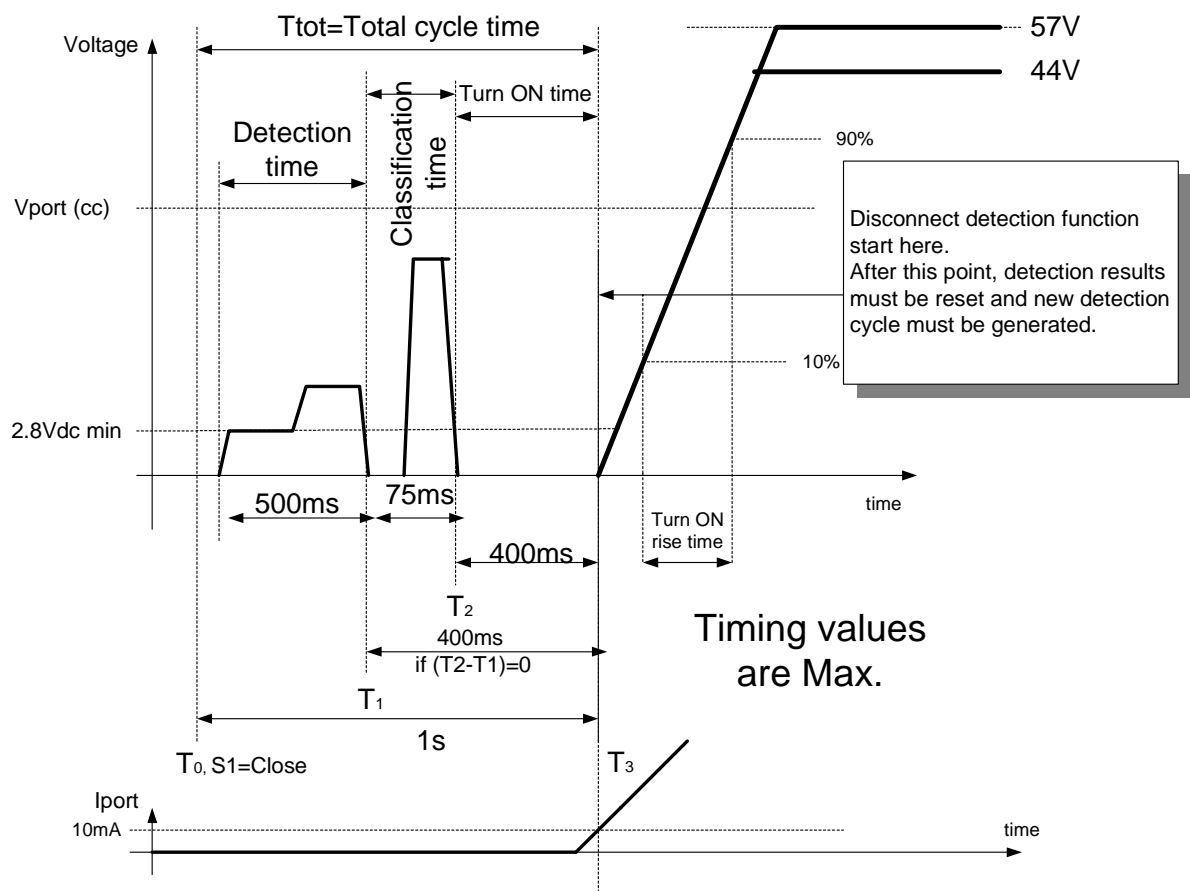

Figure 33-5-16.1
See figure 33-5-16.1.
2. Open S1. Repeat step 1 and monitor the events vs. timings as illustrated in figure 33-5-16.1.
Verify that  $V_{port}$  voltages and timings are as defined in figure 33-5.16.1.